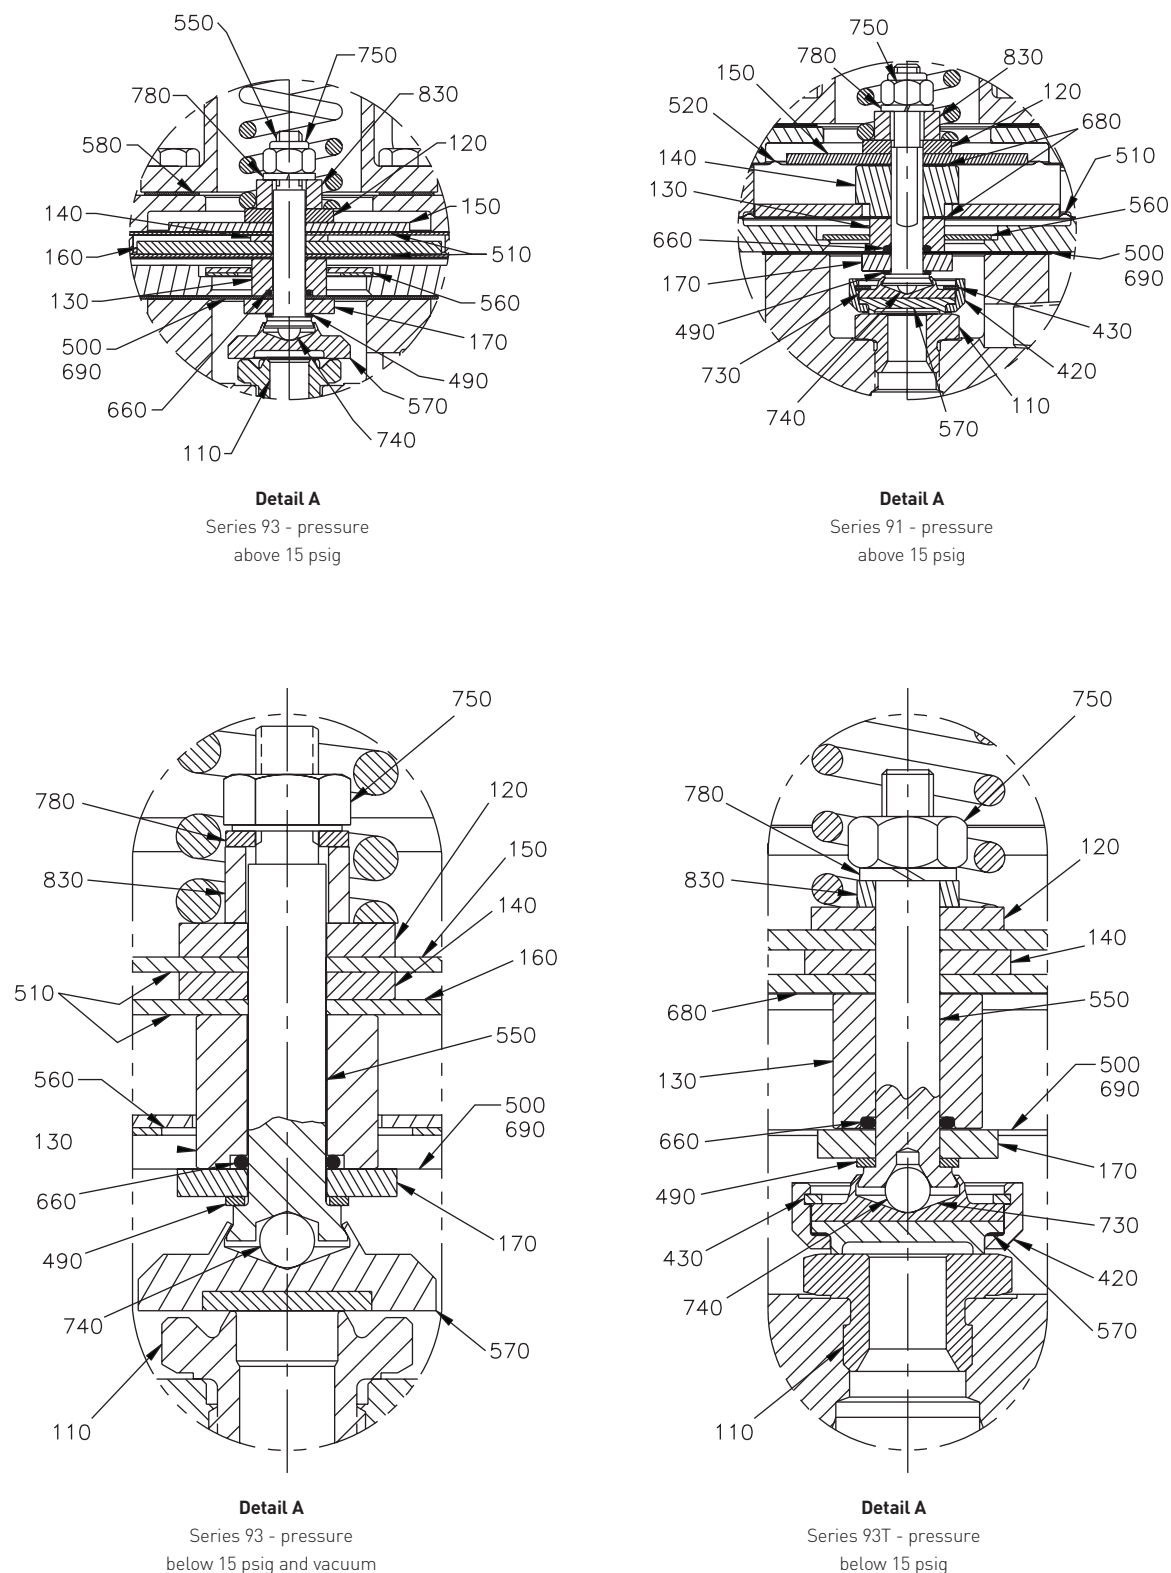

FIGURE 12
1. Remove cap (760) and adjusting screw (790) and adjusting screw seal (720) for vacuum pilot. Remove bonnet bolts (770), seals (700) for vacuum pilot, bonnet (200), spring (840) and spring washer (820).
2. On Series 91 and 93T pilots, loosen boost tube fitting (310) on boost tube (320) at boost tube connector bolt (270). Refer to detail B. Remove boost tube connector nut (300), washer (290), lower boost tube seal (590), seal retainer (280). Let these three parts slide down boost tube. Remove boost tube connector bolt (270), upper boost tube seal (590) and seal retainer (280).
3. On Series 93 pilot, loosen boost tube fitting (310) on boost tube (320) at boost tube connector bolt (270). Refer to detail B. Remove boost tube connector nut (300), washer (290), lower boost tube seal (600). Let these three parts slide down boost tube. Remove boost tube connector bolt (270) and upper boost tube seal (590).
4. Remove case bolt nuts (260), washer (250) and bolts (240). Remove upper case (210).
5. On Series 91 and 93T pilot. Hold hex spacer (120) with a shortwell ¾" socket that has the ratchet area bored out and inserting another socket into the bored out hole, loosen.
6. Remove parts in the following order: hex spacer (120), sense plate (150), upper gasket (650), sense diaphragm case gasket (650), spindle gasket (680), sense spacer (140), boost plate (160), spacer ring (230), diaphragm gasket (620), boost diaphragm gasket (680) (See Figure 12, detail A)
7. On Series 93 pilot. Hold hex spacer (120) with a shortwell ¾" socket that has the ratchet area bored out and inserting another socket into the bored out hole, loosen.
8. Remove parts in the following order: hex spacer (120), sense plate (150), sense diaphragm (510), upper gasket (650), sense spacer (140), boost plate (160), spacer ring (230), diaphragm gasket (620), boost diaphragm gasket (510), boost spacer (130), check plate (560) and spindle seal (660). (See figure 12, detail A)
9. Remove boost tube (320) from body (100) and lower boost tube seal (590/600(93T)) from boost tube (320).
10. Remove spindle diaphragm (500) and gasket (690) for 93T pilot and spindle/disc assembly (550) from body (100).
11. Remove spindle diaphragm plate (170) and shim washer(s) (490) from spindle/seat assembly (550).